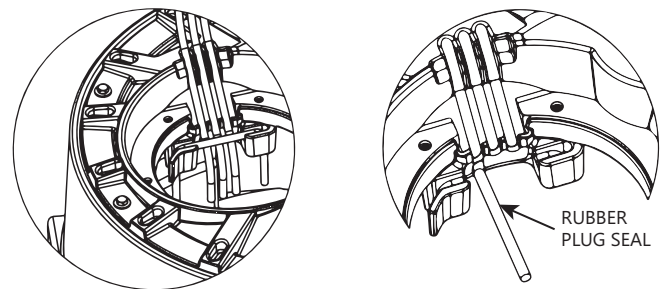

Figure 11. Proper Cord Sealing Behind QuickTree Rod
**Integrated Cord Seal System:** It is important that cords from the pump motor, float switch, and optional alarm float are sealed in the specially designed rubber sealing channels under the access cover. Proper sealing is required to keep sewer gas from leaking from the system. Place the cords securely in the rubber channels as shown in Figure 11 [left], being careful to remove excessive cord "slack" from inside the system.
**IMPORTANT:** Three cord channels are provided. For systems without the alarm option, only two channels are used and the third must be "plugged" with an attached rubber plug seal. See Figure 11 [right]. If the alarm cord is present, all three channels will be used. All rubber cover gaskets are permanently attached and do not require replacement.